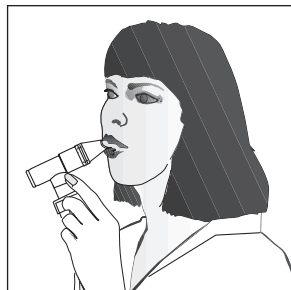

Figure 7
10. Begin treatment by placing the mouthpiece between teeth. With mouth closed, inhale deeply and slowly through mouth as aerosol begins to flow, then exhale slowly through the mouthpiece (**Fig. 7**). If treatment needs to be interrupted, simply press power switch “Off.”